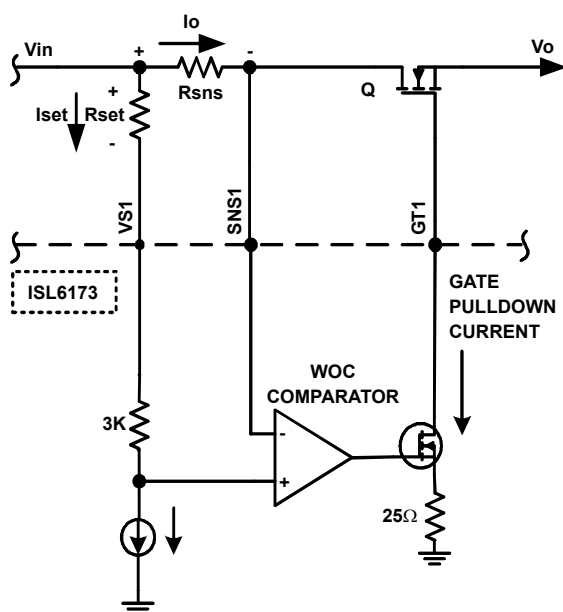

FIGURE 14. WOC OPERATION
2. Way Overcurrent (WOC) Mode - This mode is designed to handle very fast, very low impedance shorts on the load side, which can result in very high di/dt . Typically, the current limit set for this mode is 300% of the current regulation limit. This mode uses a very fast comparator, which directly looks at the voltage drop across R_{SNS} and pulls the gate very quickly to GND (as shown in Figure 14) and immediately releases it. If the WOC is still present, the IC enters current regulation mode and the rest of the current regulation behavior follows as described earlier in undercurrent regulation mode.